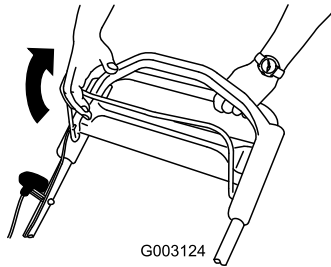

Figure 13
1. Pull the blade control bar to the handle (Figure 13).